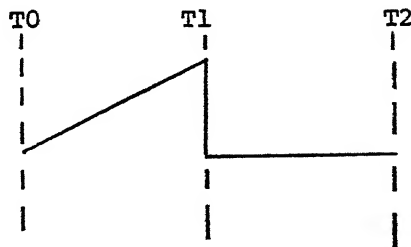

FIGURE 8
49. Refer to figure 8. From T0 to T1 of the output C4 is \_\_\_\_\_ and at T1 C4 is \_\_\_\_\_.